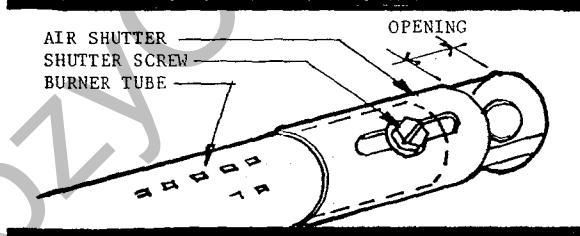
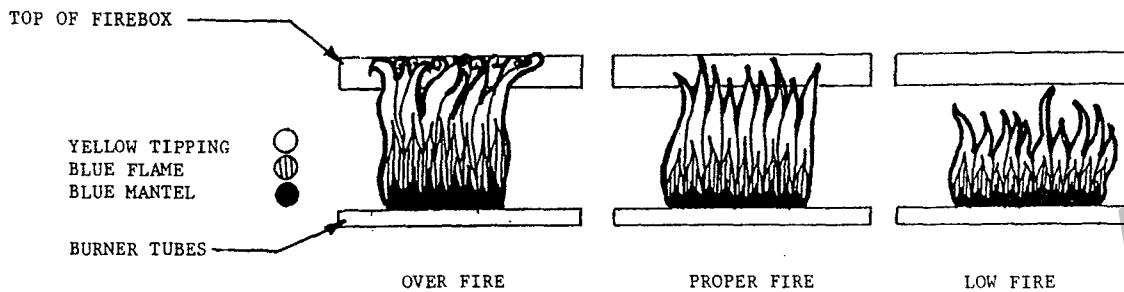

Figure 10 - Air Shutters
Figure 11 - Flame Patterns
There are two adjustable air shutters located on the burner tubes within the firebox (Figure 10). The air shutters are used to regulate the air-to-gas combustion mixture which in turn influences the size and color of the flames (Figure 11). A proper flame will burn between the logs and intermittently touch the top of the firebox.
2. Compare the flame pattern of the unit to the patterns shown in Figure 11.
5. Locate the two air shutters on the two burner tubes at the end closest to the gas control valve. Loosen the shutter set screw and slide the shutter to the left to open and to the right to close the opening as shown in Figure 10.
8. Again compare the flame pattern of the unit to the patterns shown in Figure 11 and repeat the process described above if further air shutter adjustment is necessary to obtain the proper flame pattern.